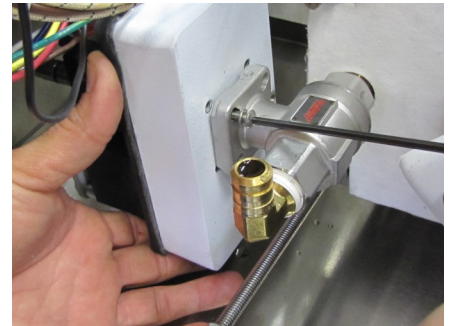

Figure 18
18. Install the new valve motor by attaching with the four screws removed in step 9. Use an 1/8" hex wrench to tighten the screws securely. See Figure 18.